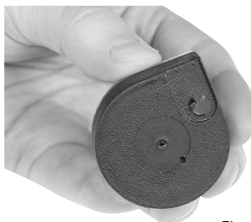

Fig. 6
2. Hold the magazine with its plastic side over the transparent side. (Fig.6)